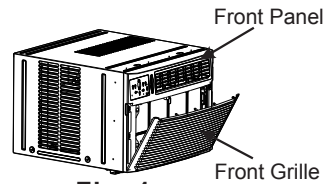

Fig. 1
1. Check window opening size-The mounting parts furnished with this air conditioner are made to install in a wooden sill, double-hung window. The standard parts are for window dimensions listed above. Open sash to a minimum of 19 inches (483 mm). See Fig. 1.
1. Pull down front grille and remove filter. (See Fig. 1.)